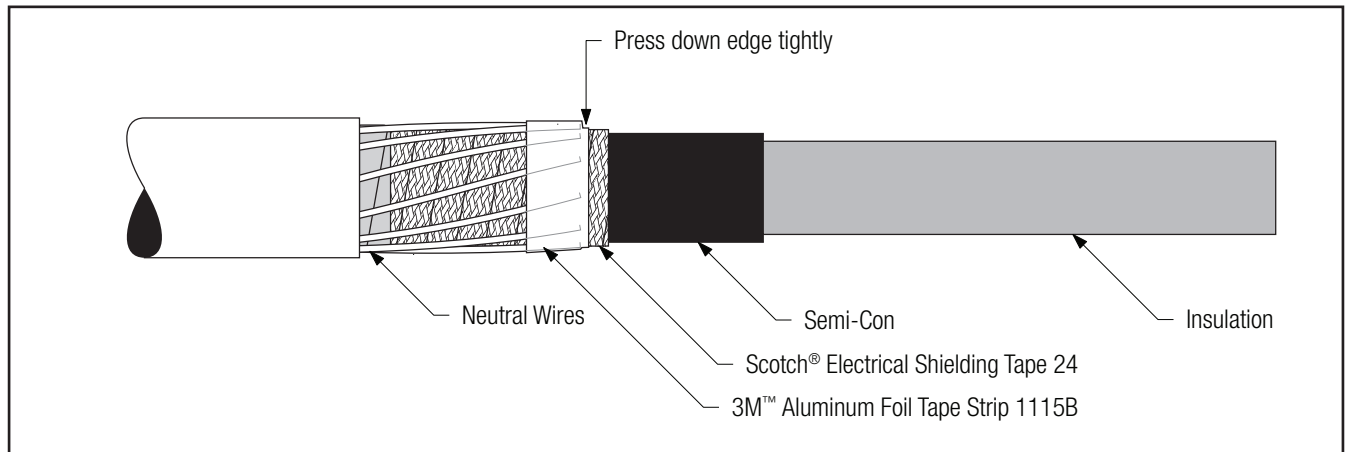

Figure 4
- 2.6 If using JCN or Flat Strap Cable:** Carefully lay neutral wires back down on top of the shielding tape and press into mastic. Keep wire profile low by following the concentric turn in the cable (*Figure 4*).
- 2.7 If using JCN or Flat Strap Cable:** Remove the liner from one 3M Aluminum Foil Tape Strip 1115B and secure the ends of the neutral wires. Wrap the aluminum tape on top of itself and tightly press down on the edge of the tape toward the end of the electrical shielding tape (*Figure 4*). If preferred, 2 wraps of vinyl tape may be used to temporarily secure the ends of the neutral wires instead of the aluminum tape.